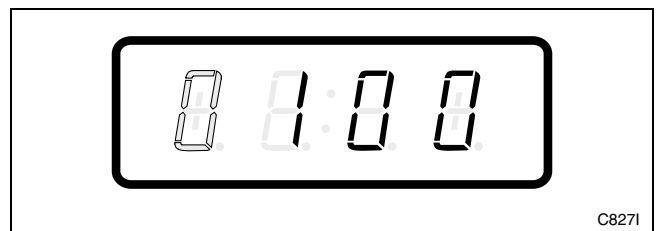

Figure 61
6. Press the START (enter) keypad to enter the fifth digit and display remaining four digits. The active digit will flash one second on and one second off. Refer to *Figure 61*.